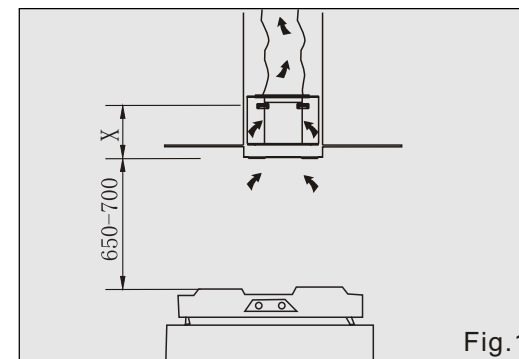

Fig.1
- Rest the support bar against the wall at a height from the cooktop determined by the sum of the distance X +(650~700)mm(Fig.1).